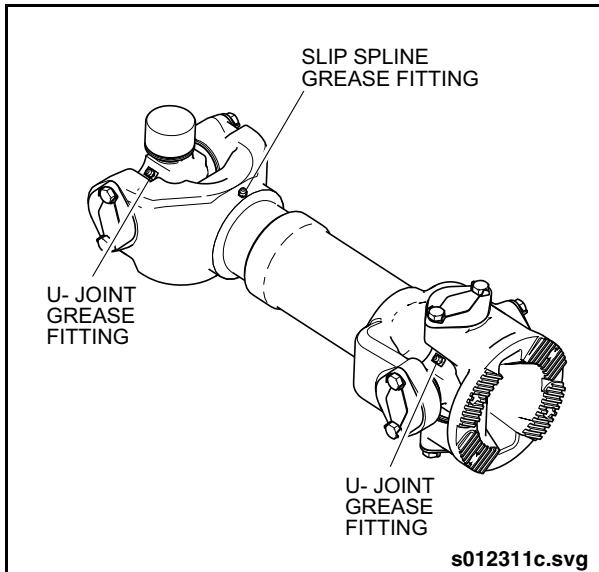

Fig. PM-12: Driveshaft Lubrication Points
1. Purge lubricate the universal joint by hand-pumping grease into the u-joint grease fitting until grease emerges from all four sealing lips. Do not exceed 5,000 psi grease pressure, otherwise the bearings will be over-pressurized. Refer to Fig. PM-12: "Driveshaft Lubrication Points" on page 39